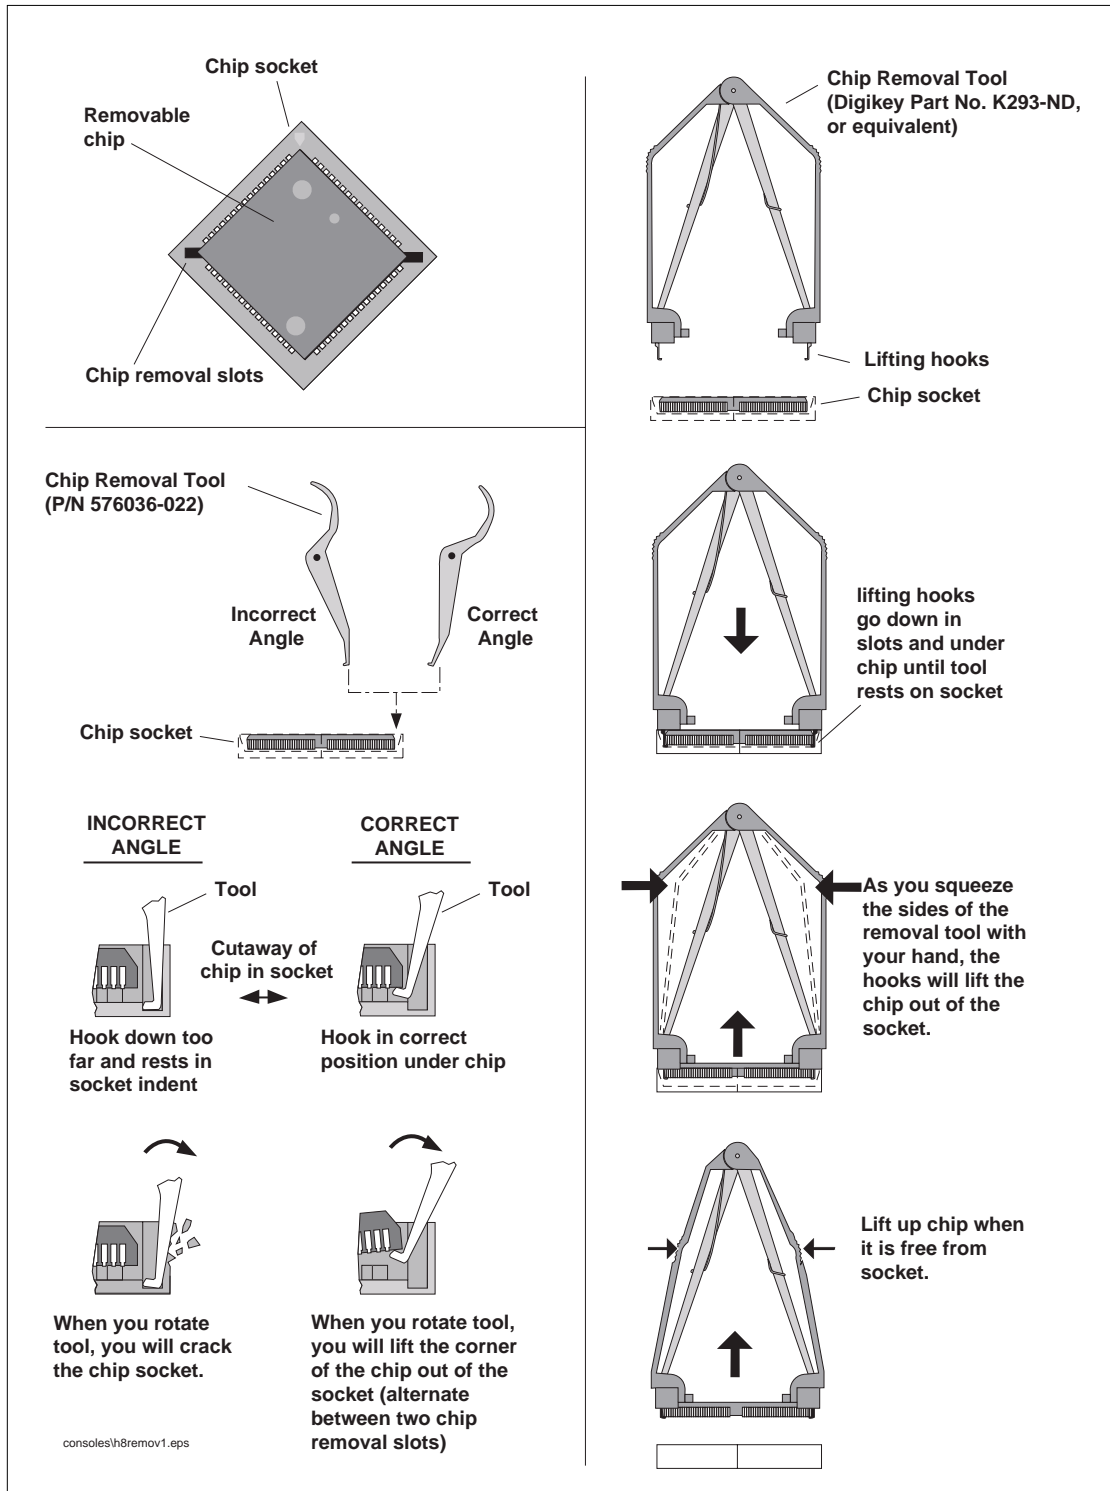

Figure 31. Removing PROM Chip
7. Remove the PROM chip following instructions in Figure 31.